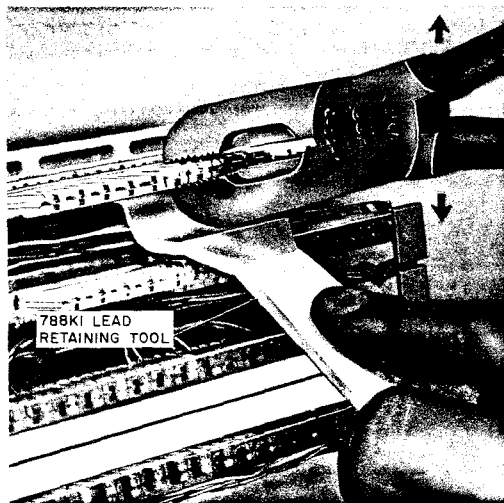

Fig. 21—Removing Connecting Block While Holding Cable Conductors in Place With 788K Lead Retention Tool
- (c) Using a pair of pliers, grip the 88-type connecting block firmly in the center as shown in Fig. 21, then gently pull with a slight up and down motion to release the connecting block from index strip. Use the 788K lead retaining tool to retain cable pairs in index strip. Discard the damaged connecting block.